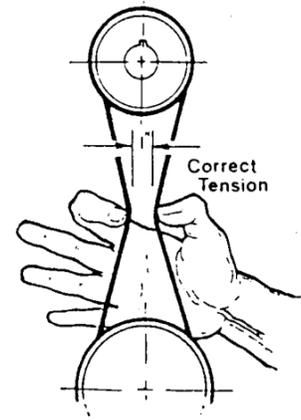

Fig. 1
5. Pull down on the motor to achieve the desired belt tension of approximately 1" (25mm) at the center belt span using light finger pressure as shown in (Fig. 1).